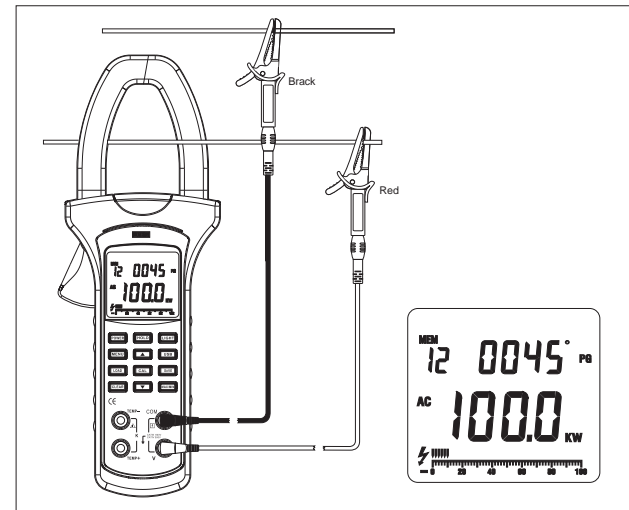

Figure 6
C. Active Power (main display) + Phase Angle (secondary display) Measurement (see figure 6)